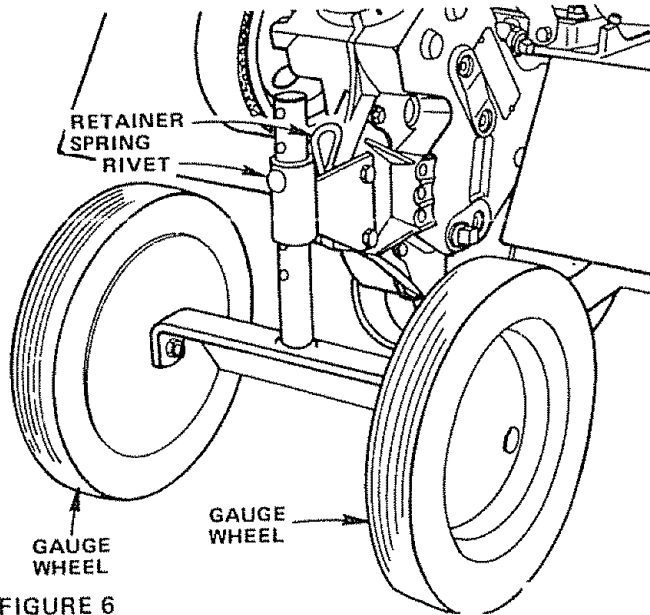
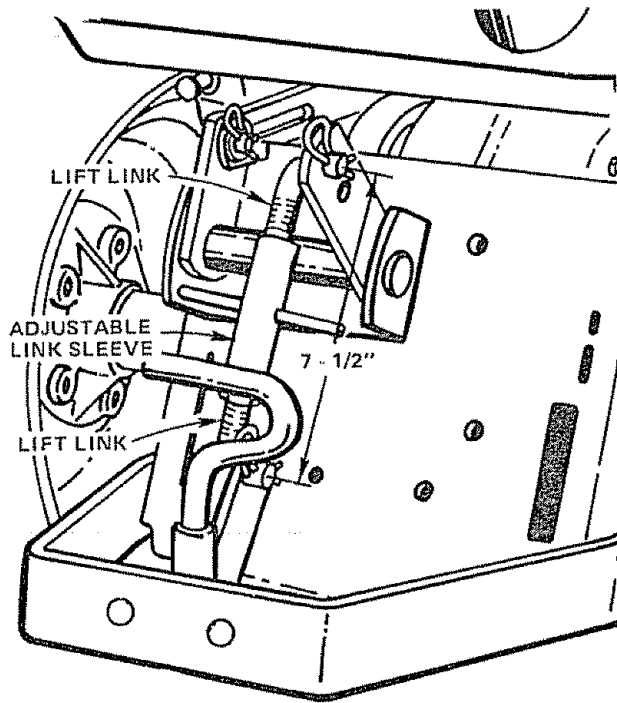

FIGURE 6
FIGURE 7
1. The tilling depth is controlled by the Gauge Wheels (Fig. 6) and to some extent by the Adjustable Link Sleeve (Fig. 7). When deeper tilling is required, the Gauge Wheels must be raised. Wheels must be lowered for shallower tilling. Remove Retainer Spring from Drilled Rivet (Fig. 6). Adjust Gauge Wheels up or down as desired and replace Rivet and Retainer Spring.
2. Tiller can be leveled from front to rear by turning Adjustable Link Sleeve (Fig. 7). The Adjustable Link Sleeve also controls tilling depth. Shortening the Adjustable Link Sleeve and Lift Links will decrease tilling depth and lengthening will increase tilling depth.